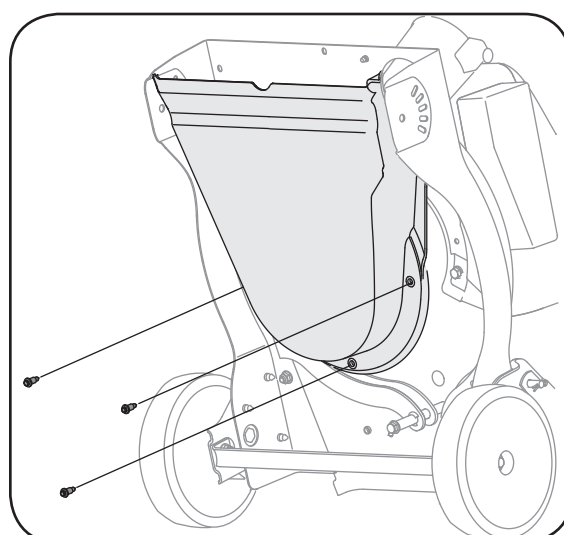

Figure 22
7. Carefully tilt and support the unit up to provide access underneath to the nozzle mounting hardware and impeller. Remove the three shoulder bolts securing the black plastic nozzle to the lower housing. Refer to Figure 22.